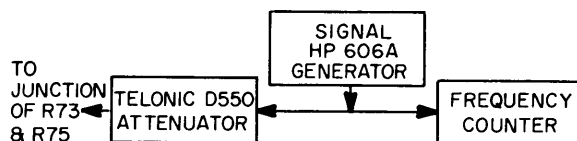

Figure 5-5. Translator Z112, Test Setup
(1) Remove rf output Z115 from Oscillator. Set all frequency selector switches to blank position. Remove step generator Z113 from Oscillator.
(2) Connect test equipment as shown in figure 5-5. Connect signal generator between junction of resistor R73 and R75 and ground.
(3) With full attenuation on the toggle switch attenuator, adjust signal generator for 1 volt output at frequency of 13.30000 MHz. Set 100 kHz switch on front panel to position 3.
(4) Short secondary of transformer T15. Connect Millivac Model MV-28B across primary of